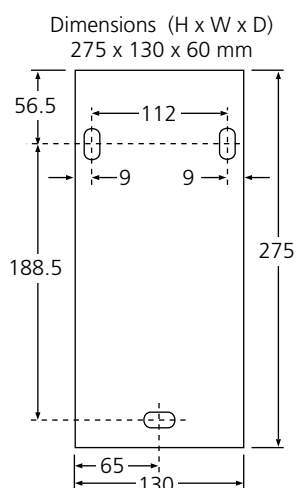

Figure 3. Mounting dimensions in mm.
- 1 Remove upper and lower covers. Fasten together the lower rectangular covers of adjacent units (1).
- 2 Fasten each unit to the wall with three screws, see figure figure 3 on page 3.